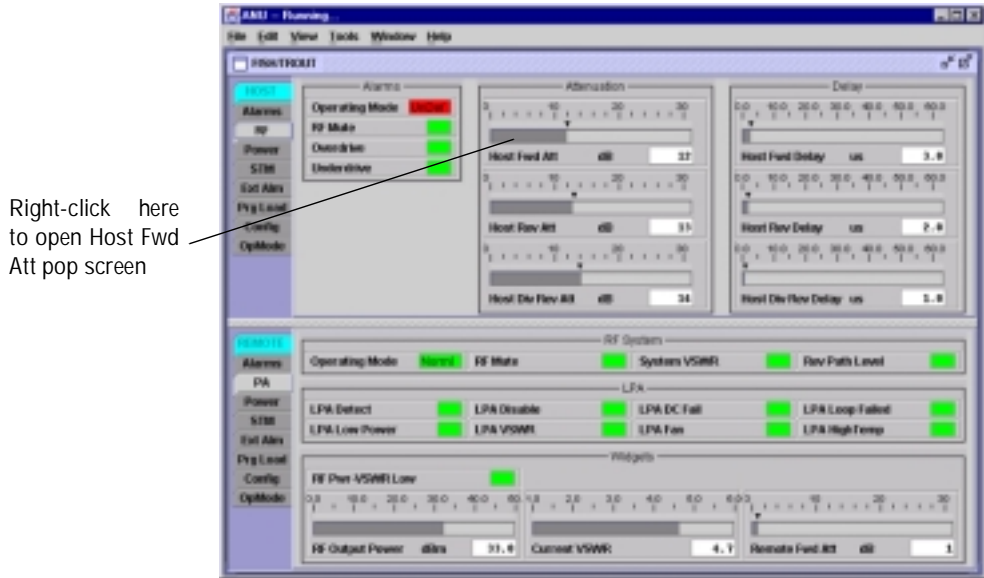
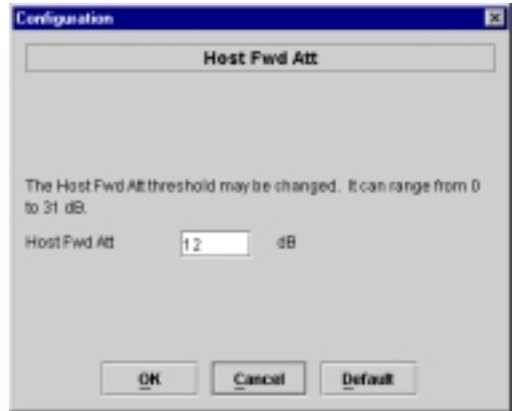

Figure 4-6. HOST RF Display
Figure 4-7. Host Fwd Att Pop-Up Screen
1. Click on the HOST **RF** tab. The HOST **RF** display will open within the EMS main window as shown in Figure 4-6.
2. Right-click on the **Host Fwd Att** section of the display (see Figure 4-6). The **Host Fwd Att** pop-up screen will open as shown in Figure 4-7.